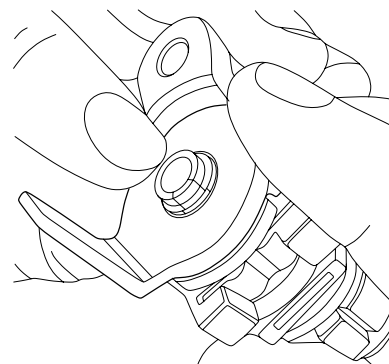
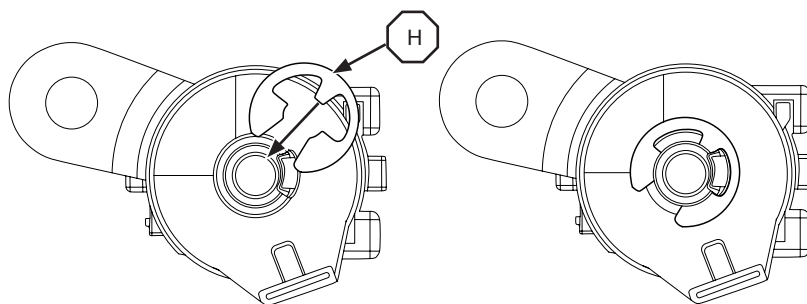

FIGURE 12
FIGURE 13
12. Colocate the Clutch (J) and Lever (F) in the cylinders tails (Figure 12) and then attatch the E-clip (I) to secure them. (Refer to Figure 13).